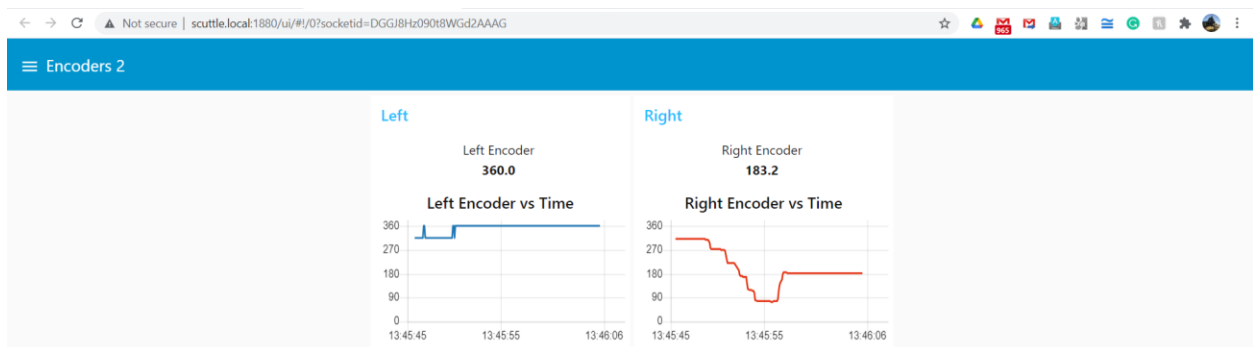

Figure 29
- d. Now click the “Deploy” button in the upper right of NodeRed and then click the open dashboard button. It should open a new tab in your browser with two values which are each displayed on a respective chart with time like Figure 29 below.